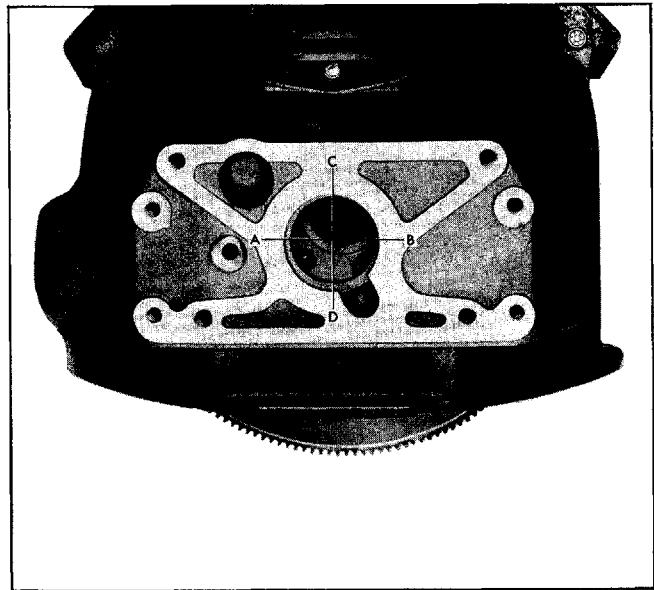

Fig. 7-33 Indicator Positions for Checking Housing Hole
a. Check horizontally: Rotate crankshaft to place dial indicator tip at point A, Fig. 7-33. Set dial at 0. Rotate crankshaft until indicator spindle is at B directly opposite point A. Indicator reading at B must not be more than .005" on either side of initial reading indicating that center of housing hole is within .0025" on either side of center of flywheel.
b. Check vertically: Rotate crankshaft to place dial indicator tip at point C, Fig. 7-33. Set dial at .014". Rotate crankshaft until indicator spindle is at D directly under C. Indicator reading must be between .010" and .000" indicating center of hole in housing is .002" to .007" below center of flywheel.